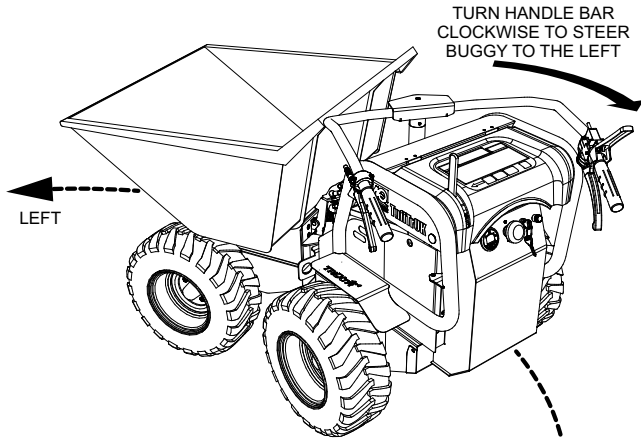

Figure 26. Steering the Buggy (CW-Left)
1. To turn left (Figure 26) when traveling in the forward direction, turn the handle bar clockwise.